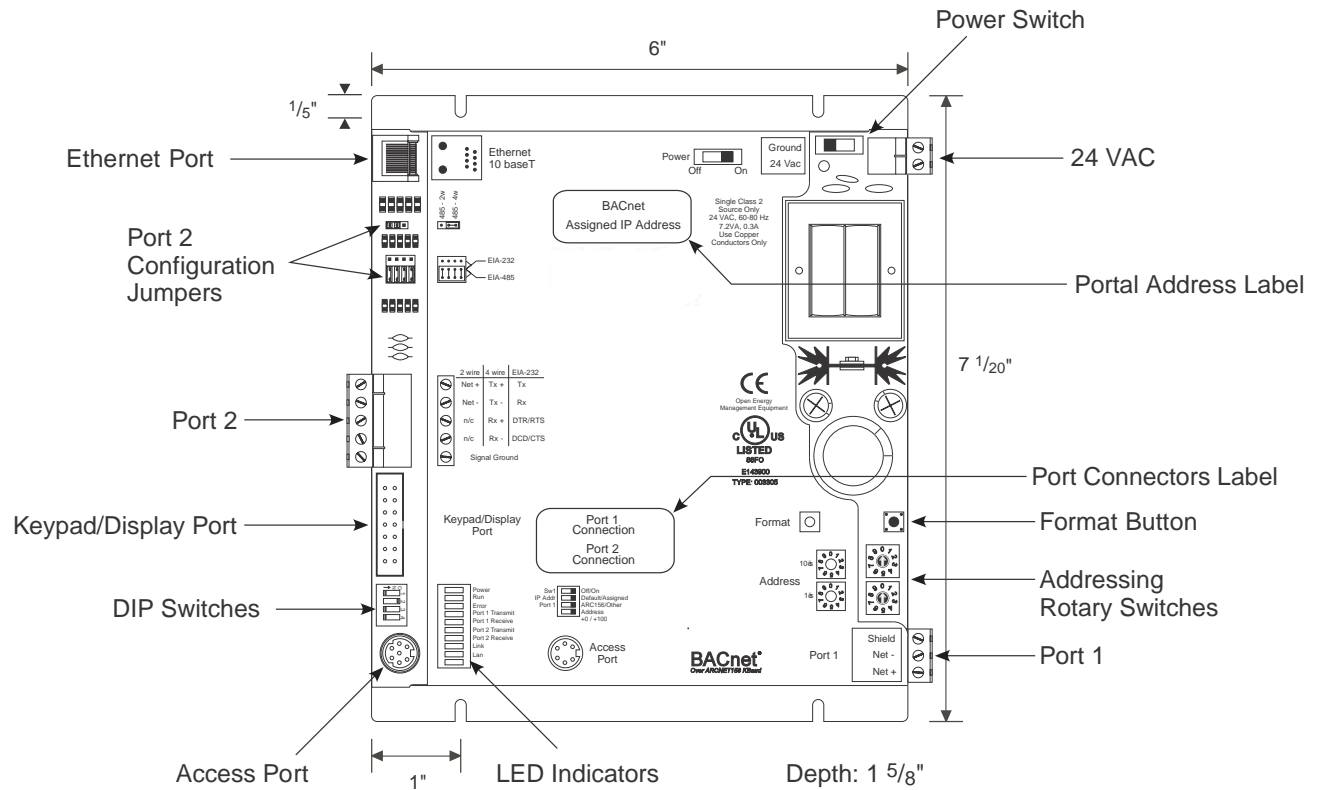

Figure 1. BACnet Portal
For BACnet portals ordered without an enclosure, mount the unit in an enclosed panel using the mounting holes provided on the BACnet portal backplate (refer back to Figure 1). Leave about 2 inches (5 centimeters) on each side for wiring access. In addition, the BACnet portal requires 24 VAC input power.
The Ethernet network connects directly to the BACnet Ethernet portal (refer back to Figure 1). The connection is a 10baseT port. Both Ethernet and Ethernet IP (BACnet IP) connect through this connector.
A. Set IP address to default or assigned. The BACnet portal has either an internal default Internet Protocol (IP) address or a factory-set IP address assigned from customer input. See the label attached to the portal for the IP address in either case (refer back to Figure 1). An IP address must always be present for Ethernet IP network communication. Set the IP address DIP switch (switch 3 in Figure 7) on the BACnet portal as either default or assigned. (Switches 1 and 2 are disabled.)